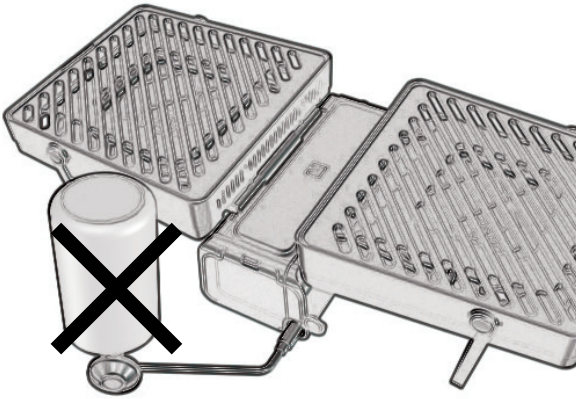

FIG. 05
6. Never operate grill with propane cylinder in an inverted position. (Fig. 05)